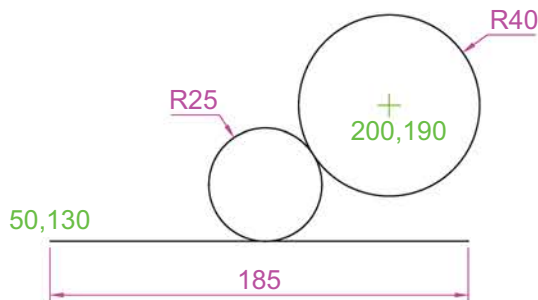

Fig. 3.32 Exercise 5
5. In an **acadiso.dwt** screen and using the **Circle** and **Line** tools, construct the line and circle of radius **40** (Fig. 3.32). The, using the **Ttr** prompt, add the circle of radius **25**.